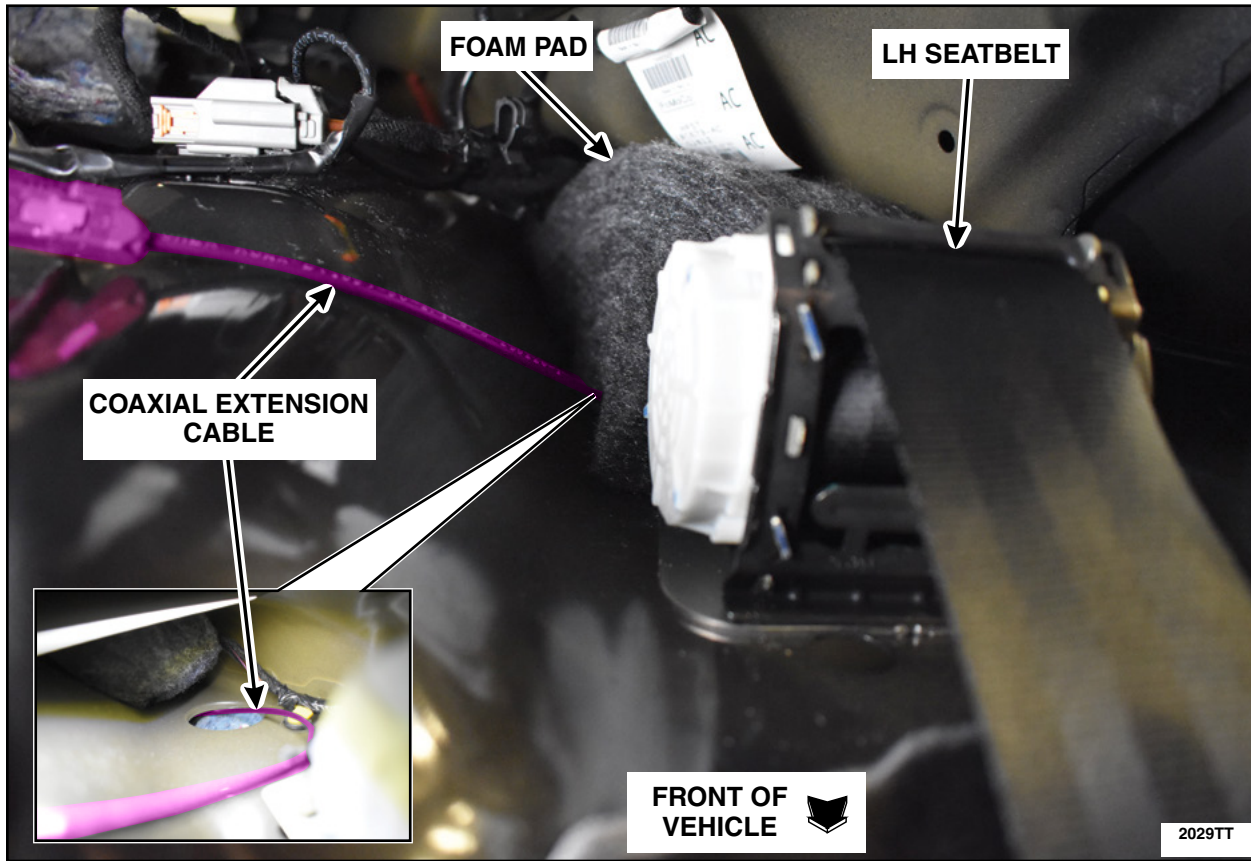

FIGURE 9
10. Route the coaxial extension cable under the foam pad located behind the LH seatbelt and towards the center of the vehicle. See Figure 9.